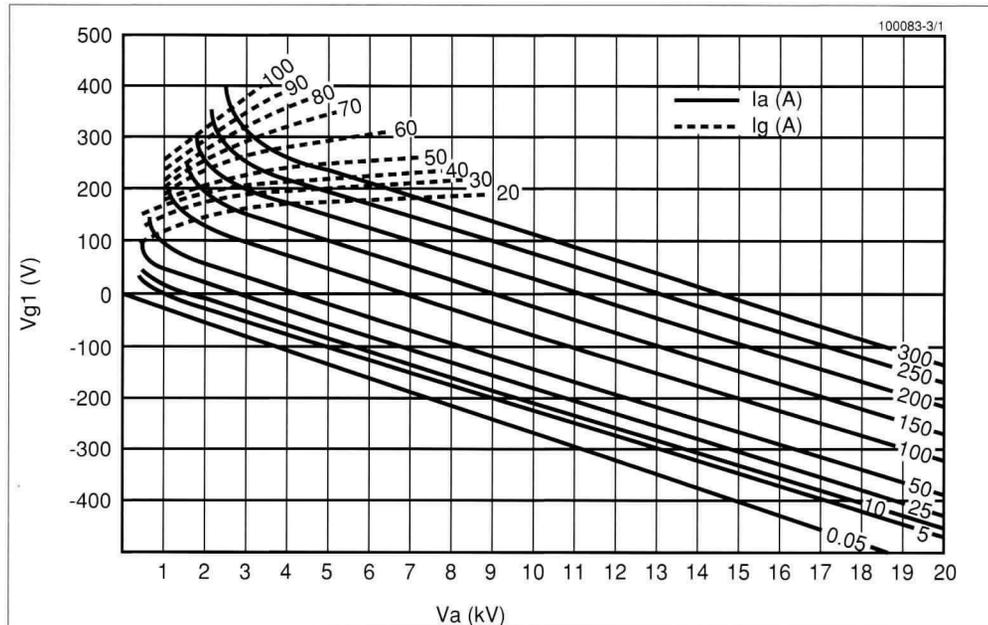

Figure 18
The currents I_a and I_g depend on the voltages V_a and V_g . This relationship is usually represented by assigning a series of fixed values to one of the three parameters I_a , V_a or V_g and then tracing the set of curves that relate the other two parameters. Of the three possible sets of curves, the most commonly used is the set known as the constant-current characteristics (Figure 18).
The appearance of grid current modifies the form of the set of curves; the lower the anode voltage and the higher the grid voltage, the greater this modification is (see the left side of the set of curves in Figure 18).
- 1) μ , the amplification factor, a dimensionless number, which is equal to the slope of the constant I_a curves (Figure 18) ;